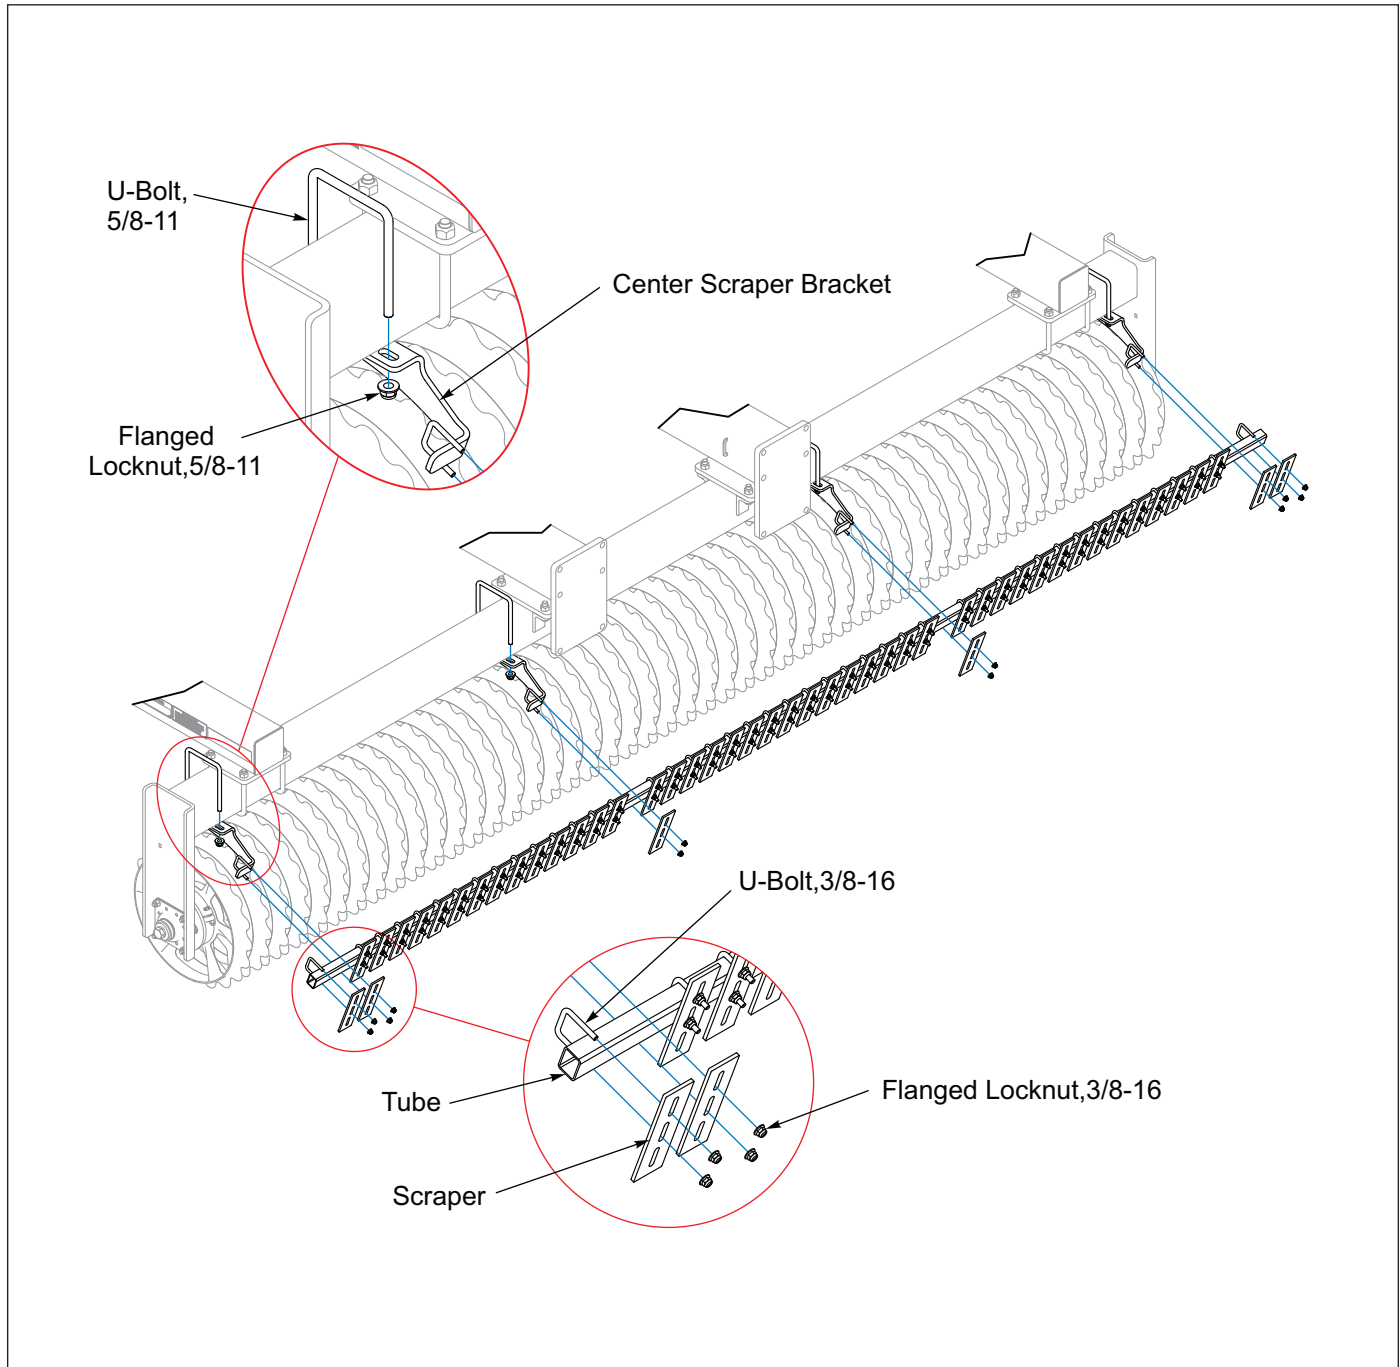

Figure 2-74: Center Rear Scraper Installation
1. With the Rollers on level ground, place the 5/8-11 U-bolts over the frame tube and through the Center Scraper Brackets, secure with Flanged Locknut. See Figures 2-74 and 2-75.